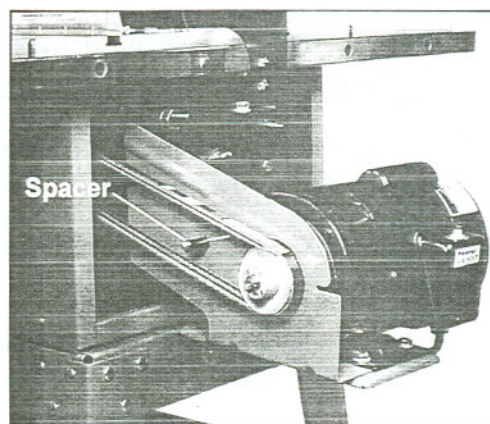

Fig. 24
3. Place the M8x40 carriage bolt through hole in the belt guard bracket. Place spacer onto carriage bolt. (Fig. 24)